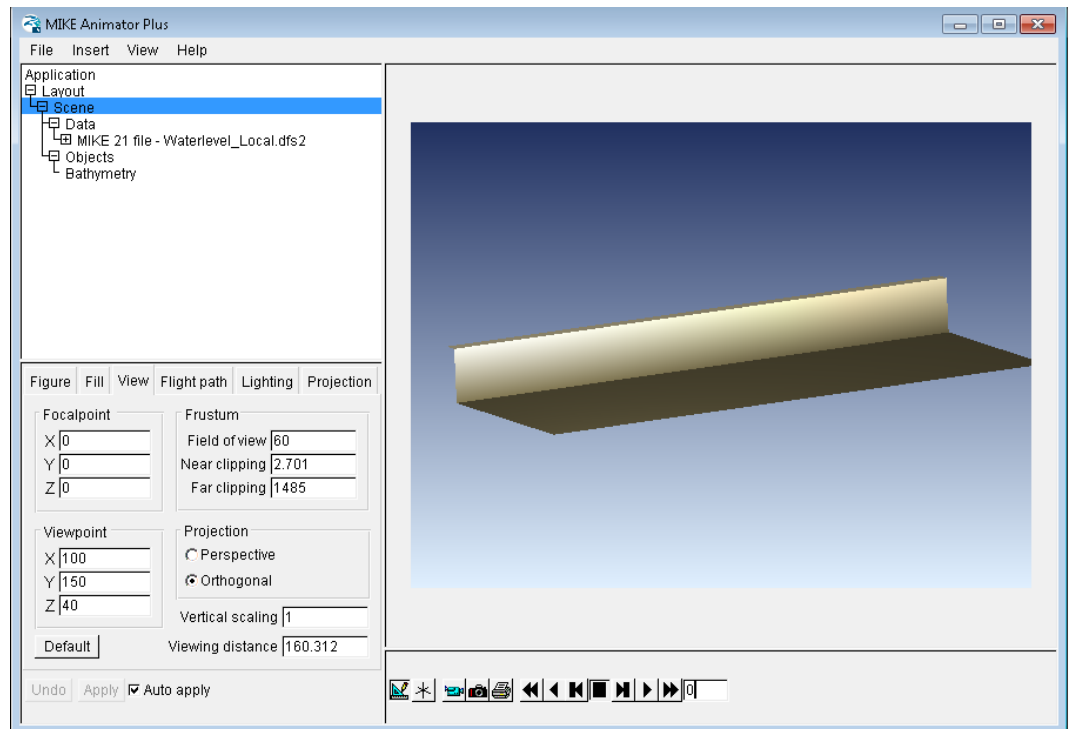

Figure 3.31 Defining View settings in MIKE Animator Plus
5. Select the 'View' tab and change the Focalpoint parameters to (0,0,0) and the Viewpoint parameters to (100,150,40) as shown in Figure 3.31.